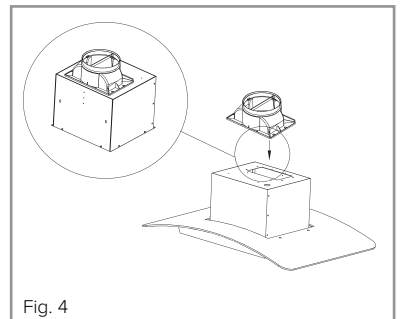

Fig. 4
1. Firstly, fix the vent outlet to the extractor body using the provided four screws, as shown in Fig. 4.